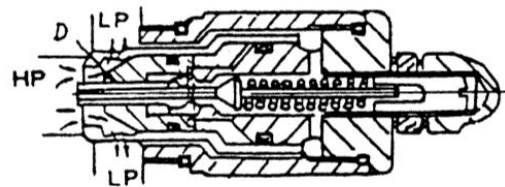

Fig.6.8
(4) Compared with the cylinder port HP, the inside pressure is imbalance, then the safety valve core will be open, so the oil of the HP side will reach LP passage directly. (See Fig.6.8)